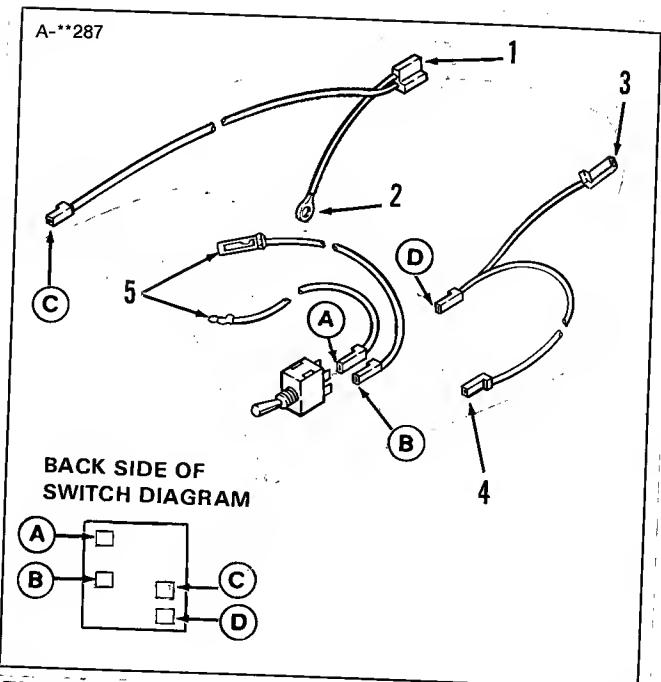

Figure 6.
- Attach the wires to the switch terminals as indicated by the letters A thru D in figure 6. To make sure switch is correctly positioned notice the terminal spacing on switch diagram in figure 6.
- Route the wire (4, figure 6) behind the steering post, over to the fuse box. If a wire is connected to bottom terminal, disconnect it and install 2-way connector. Connect both wires to connector. Remove the bottom fuse from fuse box. Install the 20 amp fuse supplied with kit in its place.
- Route the two wires (5, figure 6), following the tachometer cables, to the interlock switch in front of left-hand pedal.
- f. Route the longest wire (1, figure 6) to front of tractor, following the wiring harness. Connect the plug to the plug at the clutch.
- g. Connect the ground wire (2, figure 6) with same capscrew used to secure battery negative cable to frame, if wire was routed on left-side of tractor. If on right-hand side, connect ground wire to frame with a 1/4-20 capscrew, washer and nut (obtain locally).